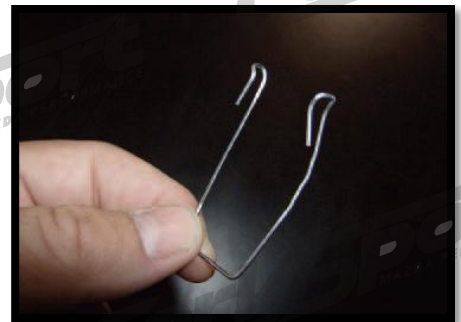

Figure 2g
-  You can also remove the clips using a modified paper clip (shown in **Figure 2g**). Slide the paper clip in behind the latch clip and remove the entire assembly.
You can also remove the clips using a modified paper clip (shown in **Figure 2g**) Slide the paper clip in behind the latch clip and remove the entire assembly.